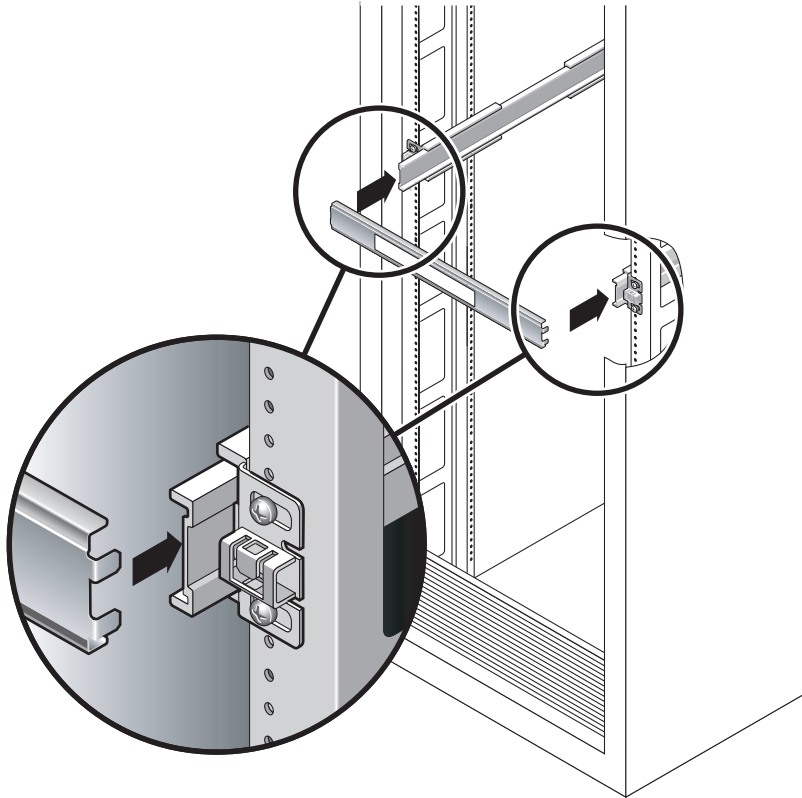

FIGURE 2-6 Using the Slide Rail Spacing Tool to Adjust the Distance Between the Slide Rails
- a. At the front of the rack, plug the left side of the tool into slots at the end of the left rail (FIGURE 2-6).